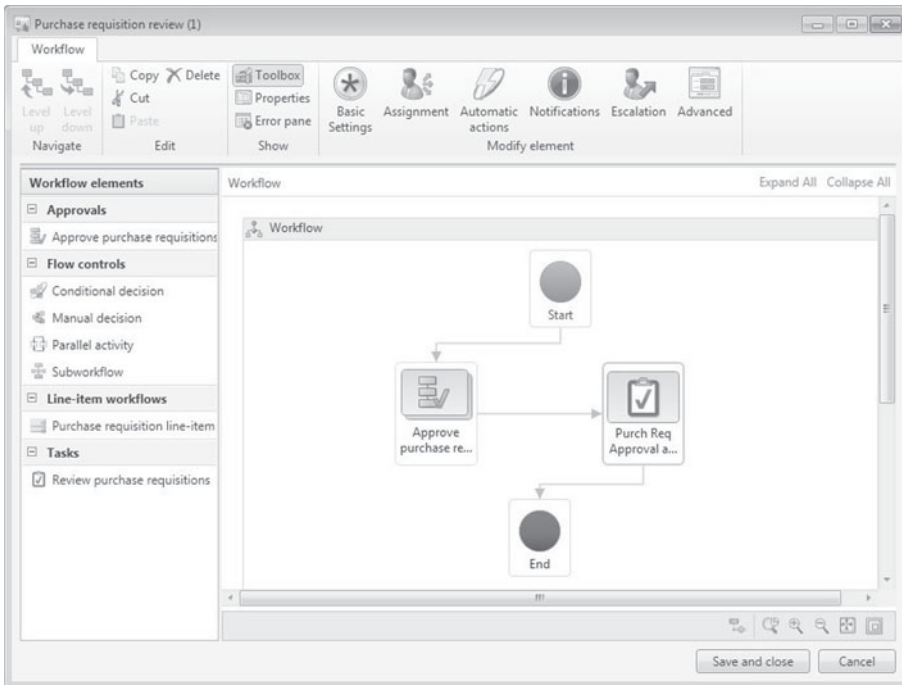

Figure 9-14: Graphical workflow editor showing the purchase requisition workflow
- Error pane – Displays error messages and warnings below the canvas (not shown in Figure 9-14, click the button *Error pane* in the action bar to display)